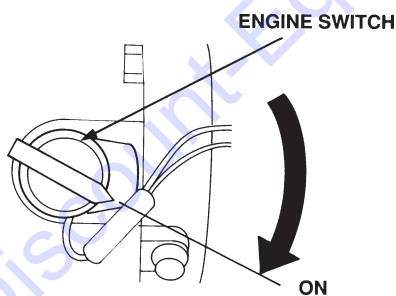

Figure 19. Engine ON/OFF Switch (ON position)
- Place the **engine ON/OFF switch** (Figure 19) in the “**ON**” position.